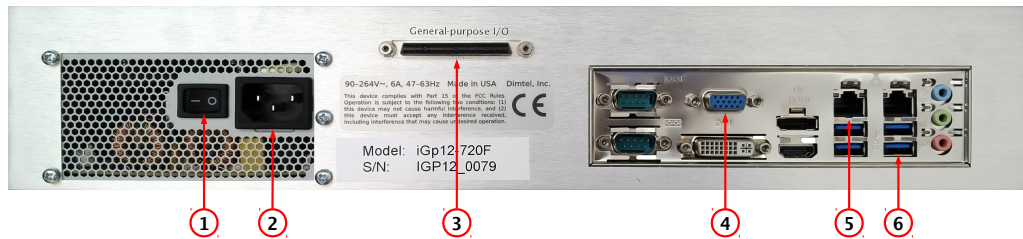

Figure 4: Rear panel features
6. Connect a USB keyboard (Fig. 4, item 4);
7. Connect a video monitor (Fig. 4, item 5);
Setup program is included in the **IOC** for configuring the important features of the iGp12-328F. The program can be executed locally or remotely. For local execution one must first connect a keyboard (Fig. 4, item 4) and a video monitor (Fig. 4, item 5) to the system. For remote setup, use **ssh** after system bootup to establish connection. In both setup methods the user must login as **root** (initial password is supplied with the system). If the newly received iGp12-328F must be configured remotely (when, for example, a keyboard or a monitor is not available), such configuration can be performed using a